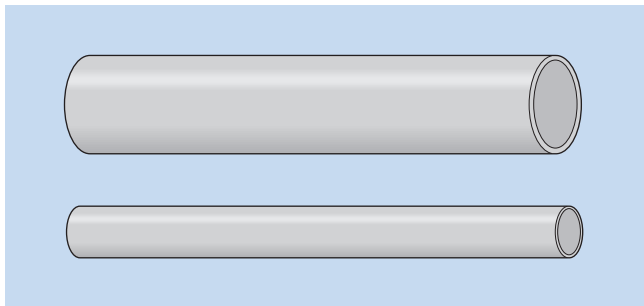

FIGURE 9-14 A large pipe has less resistance to the flow of water than a small pipe.
- 2 *The diameter of the conductor.* The larger the diameter, the less resistance it will have. A large-diameter pipe, for example, will have less resistance to the flow of water than will a small-diameter pipe (Fig. 9-14). The diameter of round wire is measured in circular mils (CM). One mil equals 0.001 inch. A **circular mil** is the diameter of the wire in mils squared. For example, assume a wire has a diameter of 0.064 inch. Sixty-four thousandths should be written as a whole number, not as a decimal or a fraction ($64^2 [64 \times 64] = 4096 \text{ CM}$).